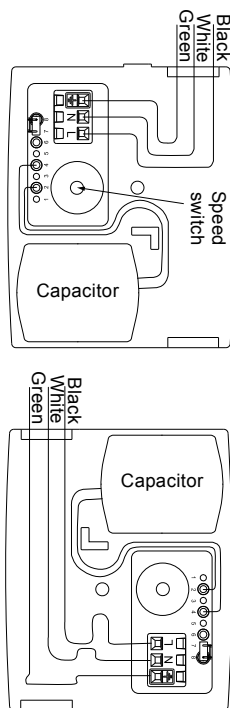

Fig. 3 Examples of ground and power supply connections (115 V and 108-230 V) with internal drip loop
- See fig. 3 for proper grounding and supply power connection locations (115 V and 208-230 V).
- Where an external "Drip Loop" is not possible, or if the wiring enters through the upward facing (top) surface of the box, then an internal "Drip Loop" is recommended; see fig. 3.